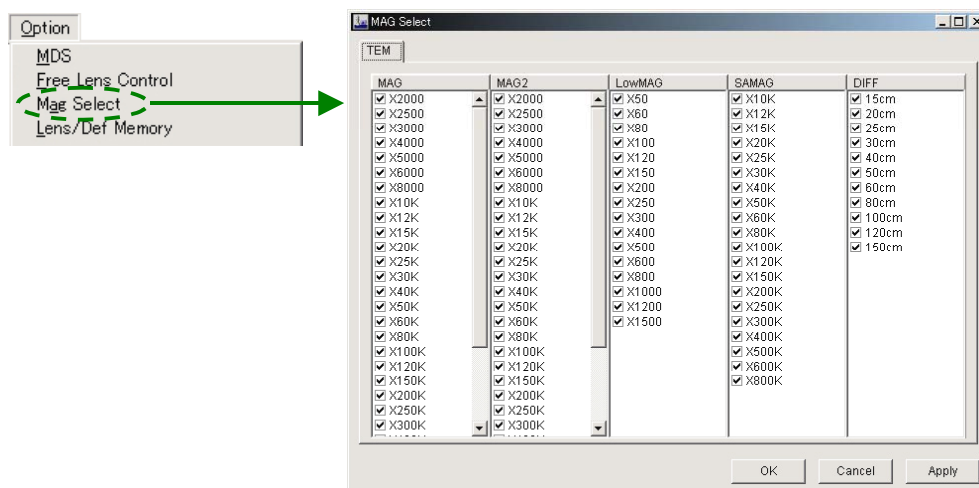

Fig. 5.60 MAG Select window
- ◆ Select **Option** from the **TEM Controller** menu bar and click on **Mag Select** to open the **MAG Select** window (see Fig. 5.60).